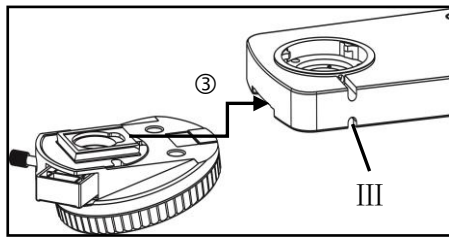

Fig 5
### 4-2-3 Install Nosepiece (fig 5)
Connect the plug of nosepiece with socket, then inset the dovetail groove of microscope according to the path ③ shown in figure 5. At last, use hex wrench tight up the bolt shown as III.